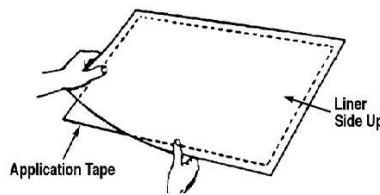

Figure 3. Align the Graphic Face Down
2. Align the graphic face-down on the application tape adhesive. See Figure 3.